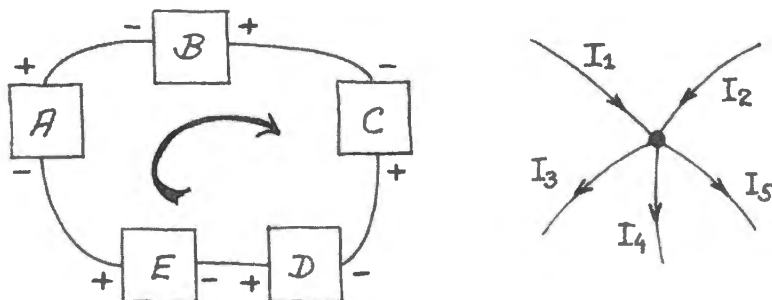

Figure 1N.6 Kirchhoff's two laws. Left: KVL – sum of voltages around a loop is zero; right: KCL – sum of currents in and out of a node is zero.
- Sum of voltages around the loop (or “circuit”) is zero; see Fig. 1N.6, left.
- Sum of currents in and out of a node is zero (algebraic sum, of course); see Fig. 1N.6, right.